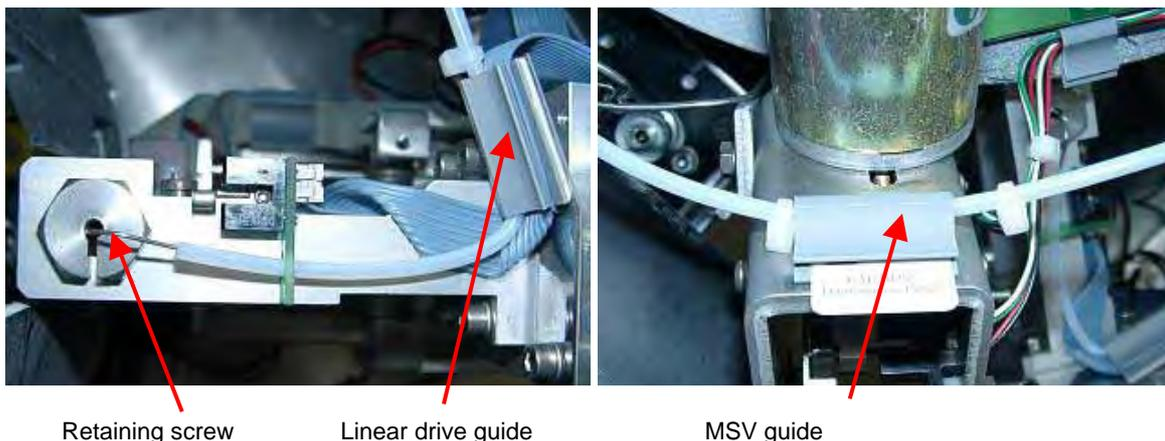

Fig. 26: Needle capillary
- Remove the retaining screw on top of the needle arm using a 17-mm spanner. While loosening the screw make sure that the needle capillary is situated in the hole of the screw and not in its lateral slot (→ Fig. 26).
- Before you push up and remove the needle from the needle guide, remove the needle capillary from its three guides (on the linear drive, on the MSV enclosure and on the green printed circuit board; → Fig. 26).